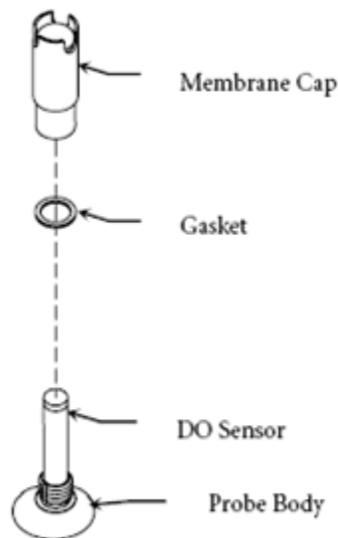

Figure 7. Gasket Installation
8. Sit the new gasket all the way down against the probe body. This step may require the use of a small pair of tweezers. See Figure 7 below.